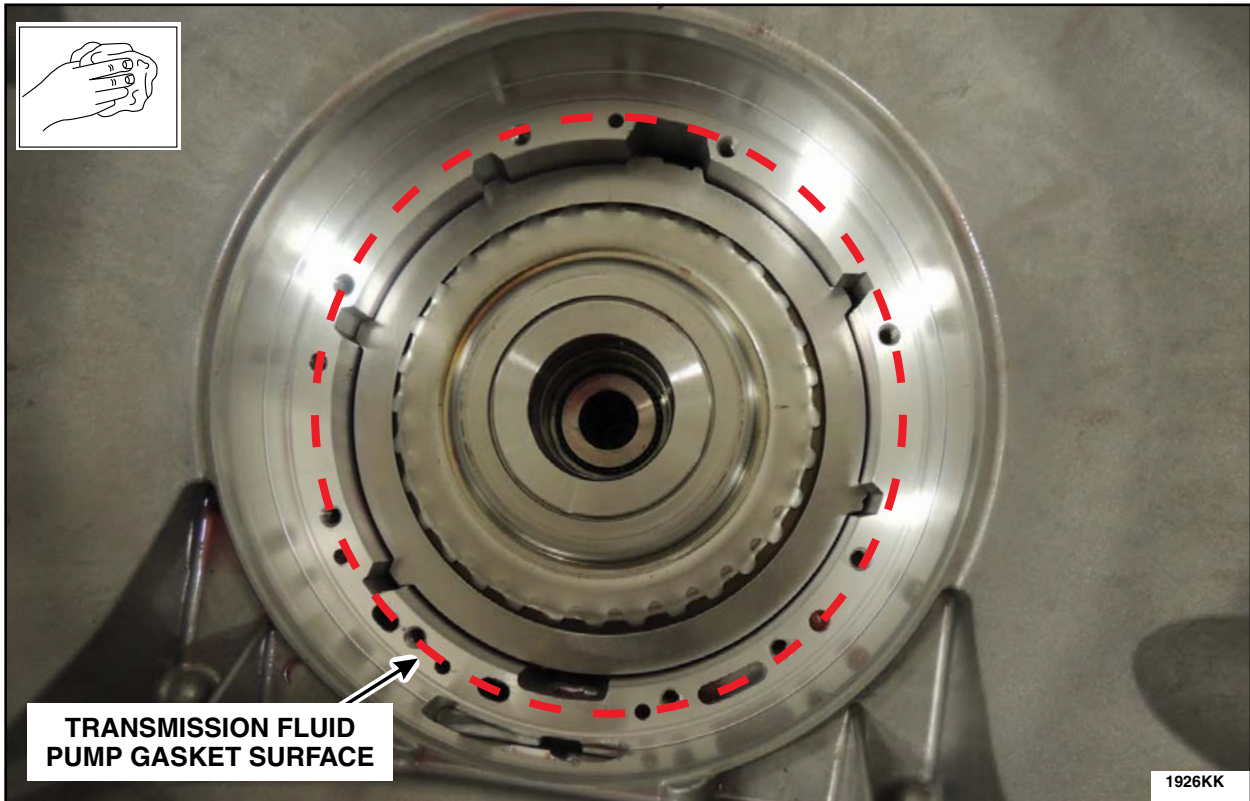

FIGURE 36
33. Clean any residual transmission fluid from the transmission front pump gasket surface and from the transmission fluid front pump retainer holes. See Figure 36.